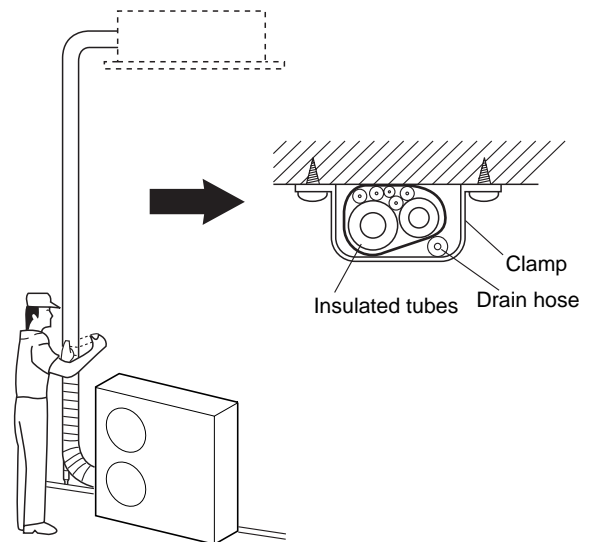

Fig. 10-10
- (1) At this time, the refrigerant tubes (and electrical wiring if local codes permit) should be taped with armoring tape in 1 bundle. To prevent the condensation from overflowing the drain pan, keep the drain hose separate from the refrigerant tubing.
- (2) Wrap the armoring tape from the bottom of the outdoor unit to the top of the tubing where it enters the wall. As you wrap the tubing, overlap half of each previous tape turn. (Fig. 10-10)
- (3) Clamp the tubing bundle to the wall, using 1 clamp about every 3 feet.